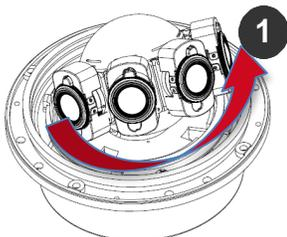

Figure 19: Adjust the pan and re-tighten the screws
4. Adjust the pan as required and re-tighten the screw (Figure 19).